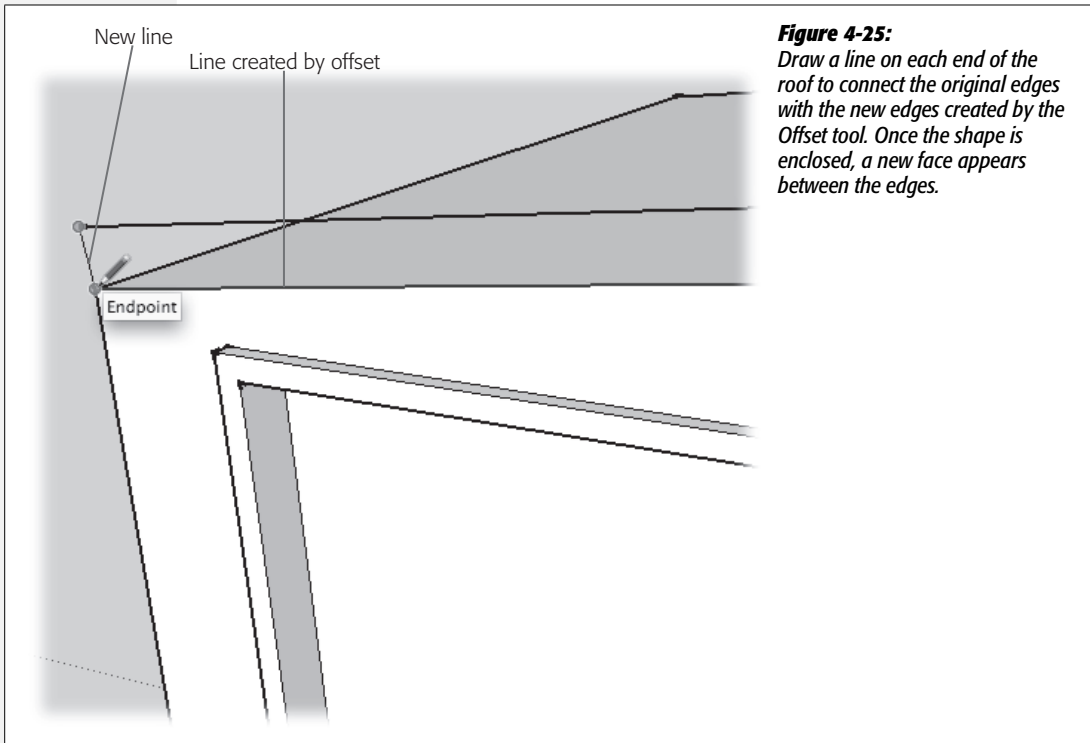

Figure 4-25:
8. With the Line (L) tool, connect the edges between the original lines and the new lines created by the offset, as shown in Figure 4-25.